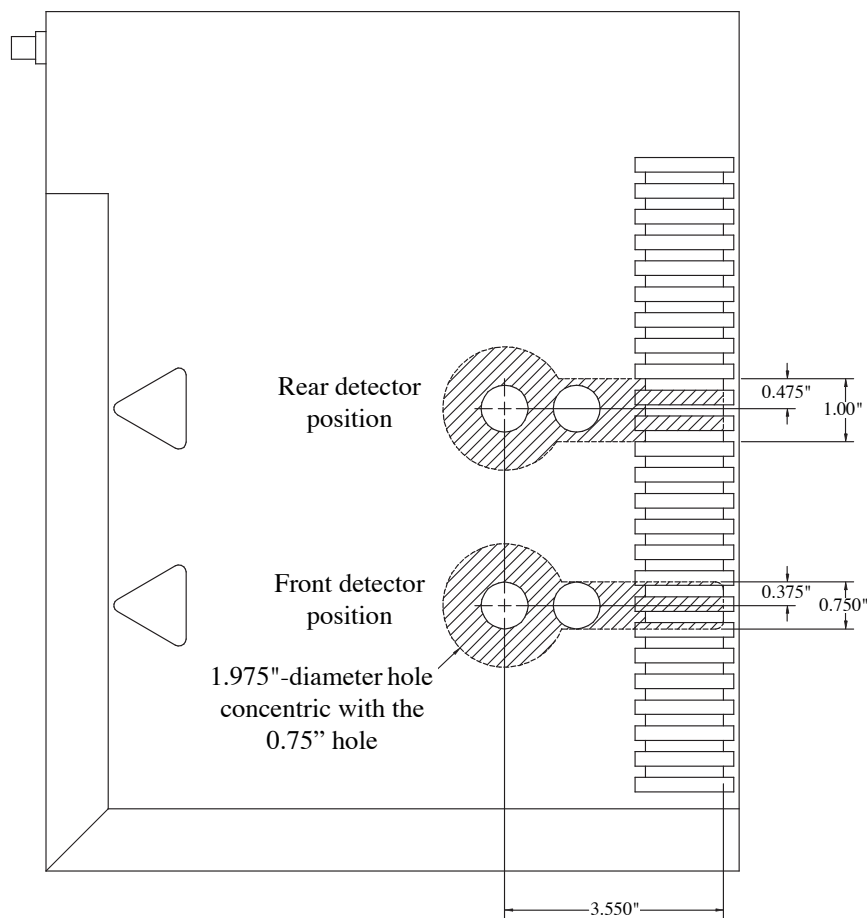

Figure 4.4. Agilent 6890 or 7890 GC Cover Modifications for Mounting the PFPD
9. *Optional:* Cut a 1.975"-diameter hole in the top of the GC cover concentric with the existing hole (refer to Figure 4.4).